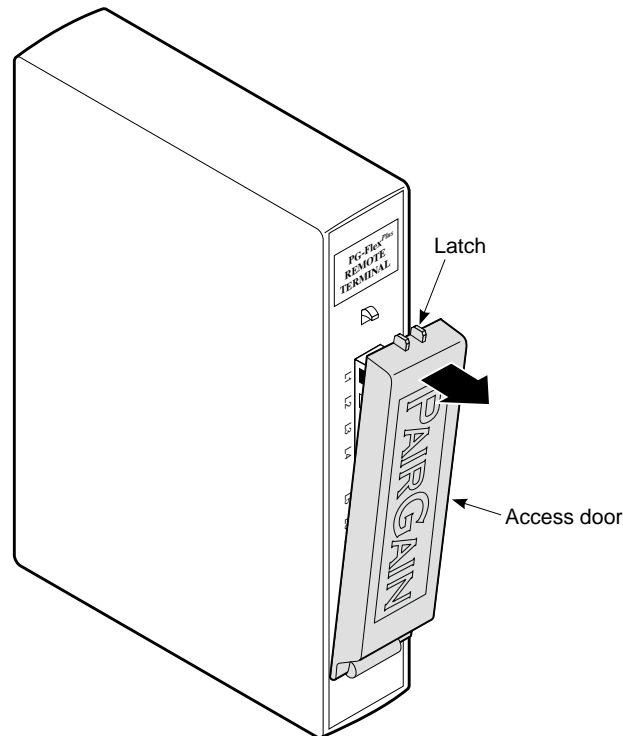

Figure 7. Opening the Telco Access Door
- 1 Open the Telco Access door as shown in Figure 7.